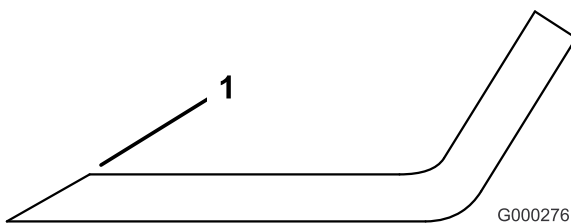

Figure 79
1. Use a file to sharpen the cutting edge at both ends of the blade (Figure 79). Maintain the original angle. The blade retains its balance if the same amount of material is removed from both cutting edges.